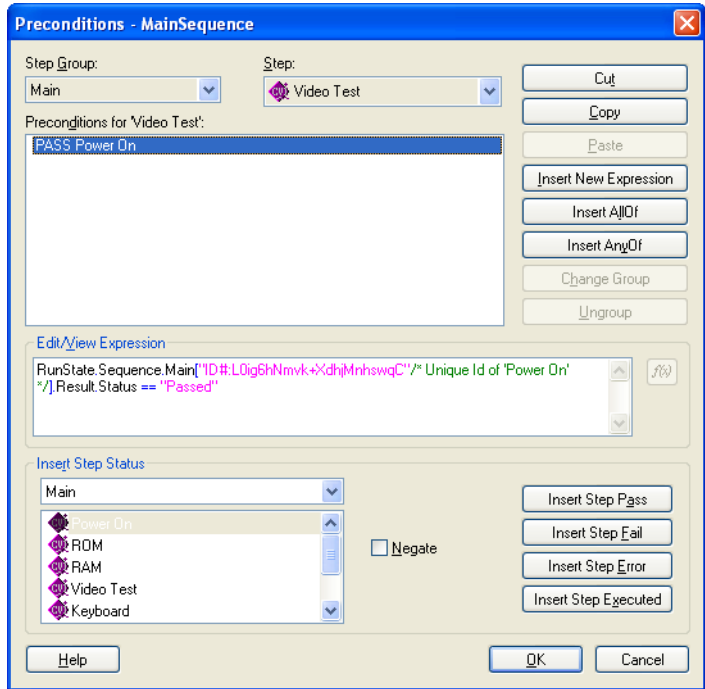

Figure 4-8. Preconditions Dialog Box
2. Click **Preconditions** in the Step Properties dialog box to launch the Preconditions dialog box, which is shown in Figure 4-8.
3. For the `Video Test` step, define a precondition so that the step only executes if the `Power On` step passes. Complete the following steps to modify the Preconditions dialog box, as shown in Figure 4-8: